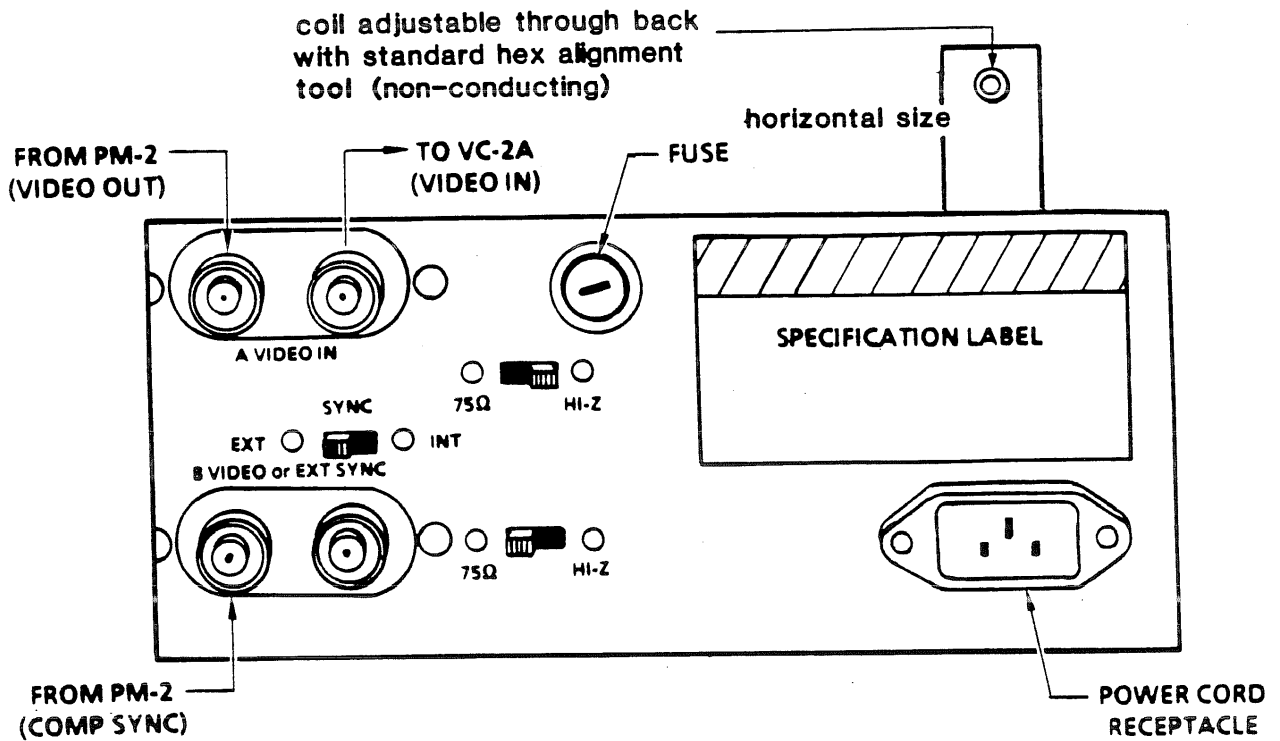

Figure 7.9-1 Video Monitor Control Panel & Rear Chassis Panel
Should the brightness of the Video Monitor change when moving the CAM 1/CAM 2 toggle switch between the CAM 1 (Interferogram Reader input) and the CAM 2 (Interferometer input) position, check that the switches on the rear chassis panel of the Video Monitor are in the correct positions (See Fig. 7.9-1).
- Step 2* Figure 7.9-1 shows the Video Monitor control panel and rear chassis panel. Locate the Horizontal size control on the rear chassis panel and the Height control on the front panel.